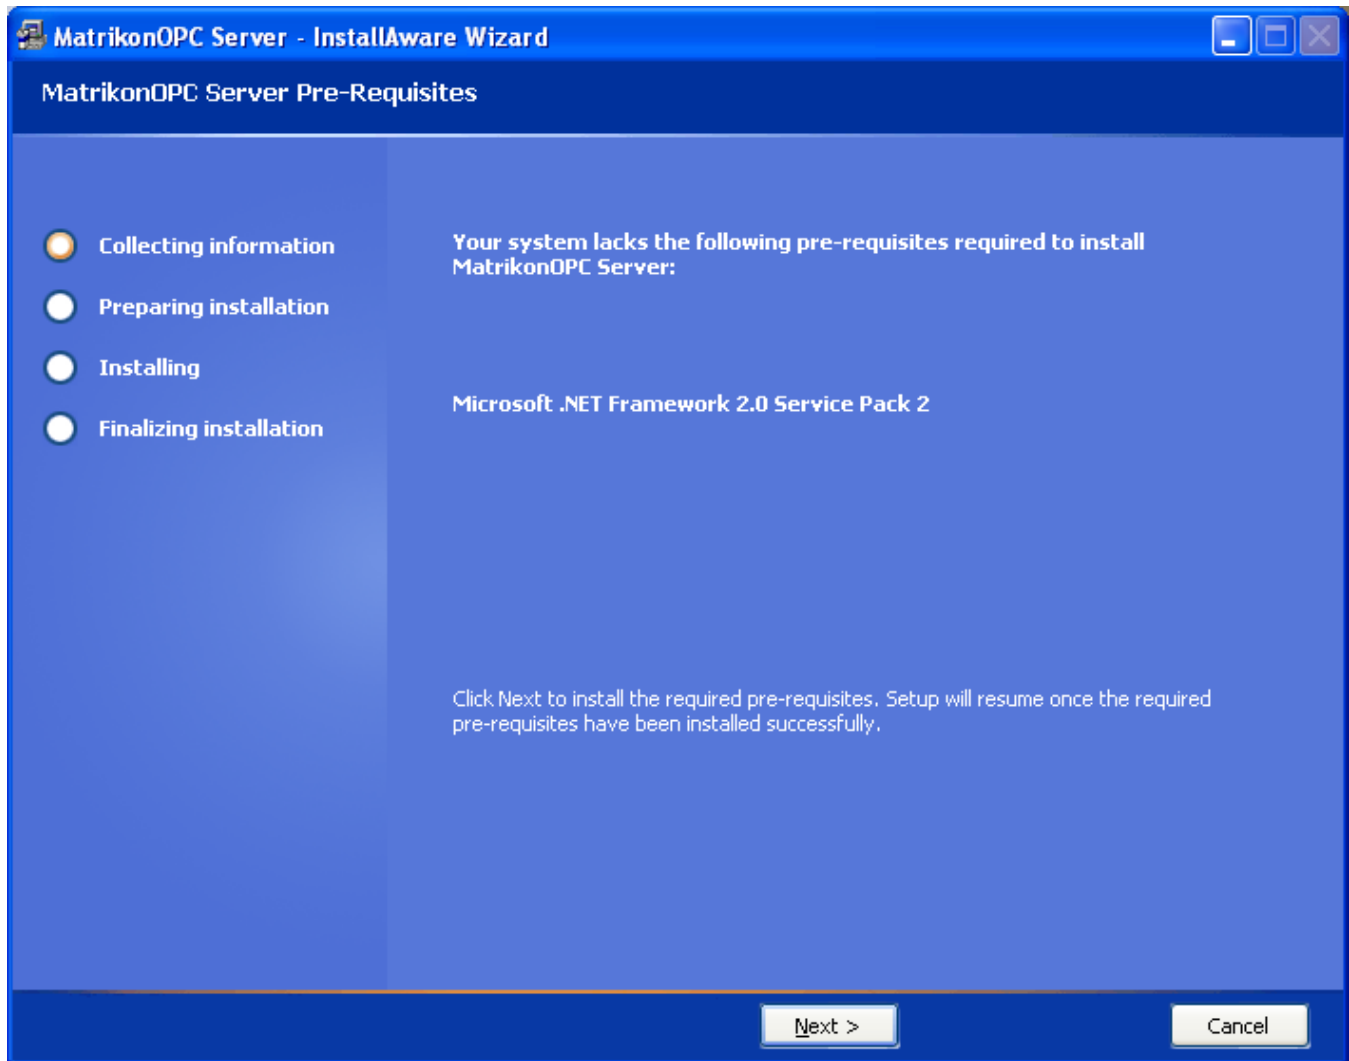
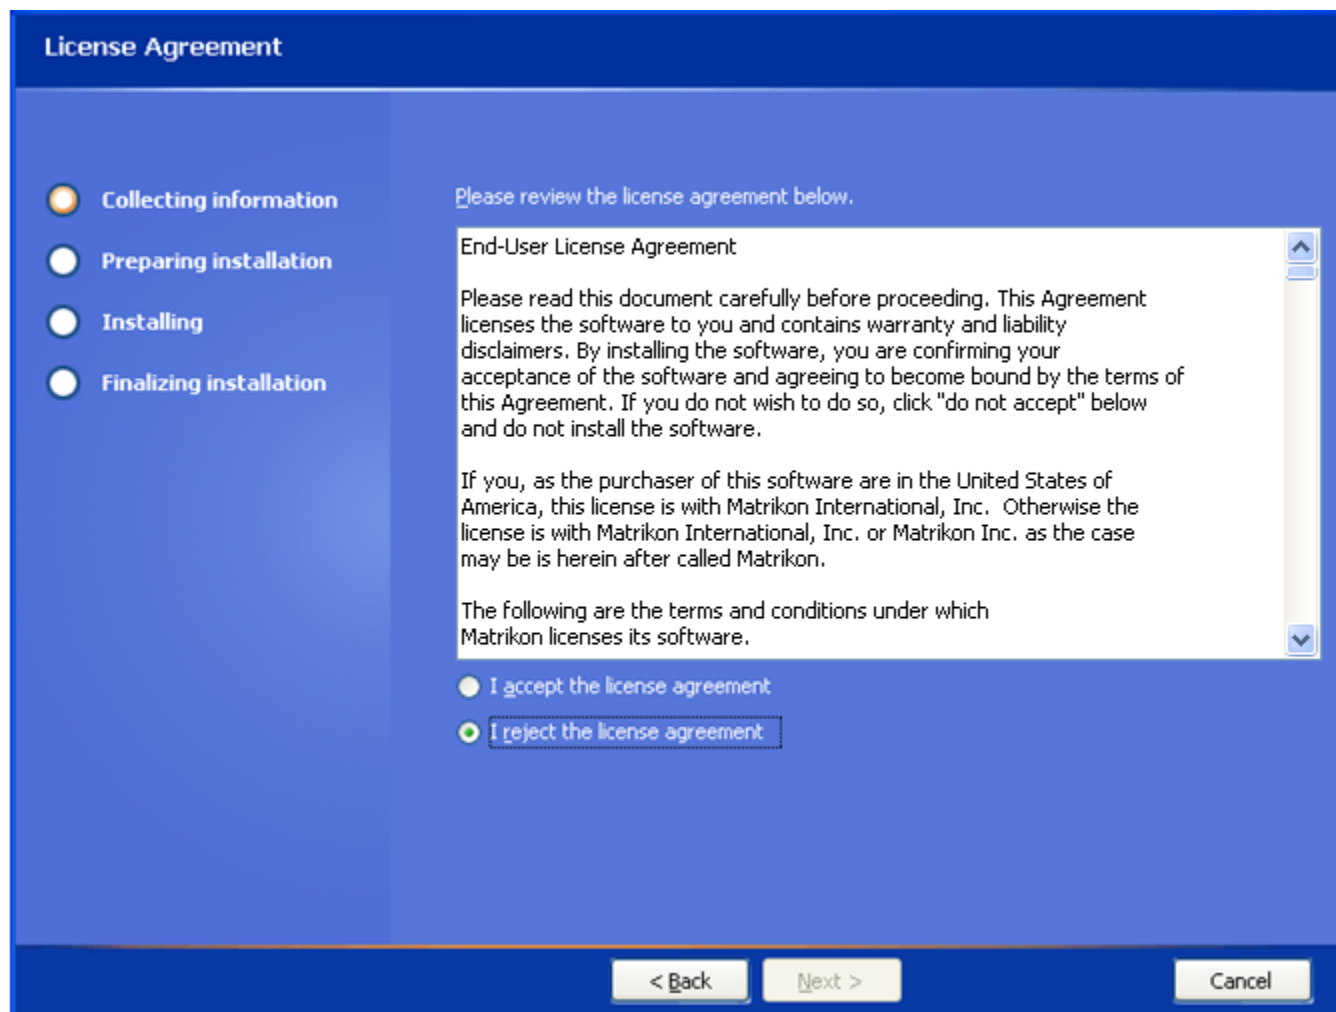

Figure 67 - Pre-Requisites Screen
Figure 68 - License Agreement Screen
3. Either a **Pre-Requisites** screen (Figure 67) appears, or you are taken directly to the **Licensing Agreement** (Figure 68) screen. If the **Licensing Agreement** screen is the displayed screen, go to step 5.
5. After all pre-requisites have been installed, the **License Agreement** screen (Figure 68) appears.